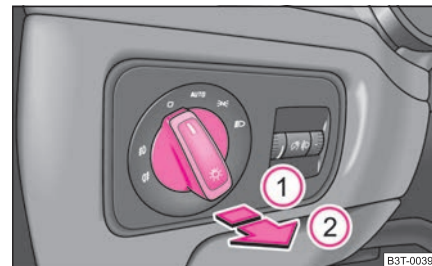

Fig. 43 Dash panel: Light switch
- First of all turn the light switch into position ☸ or ☸ ⇒ fig. 43.
- Pull the light switch into position ①.
- First of all turn the light switch into position or ⇒ page 57, fig. 43.
- Pull the switch into position (2).